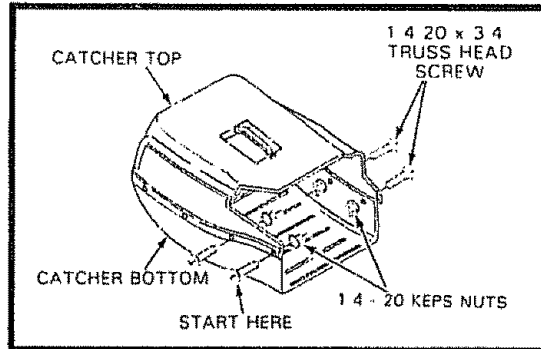

FIG. 2
- Position top half of catcher on bottom half (See Fig. 2).